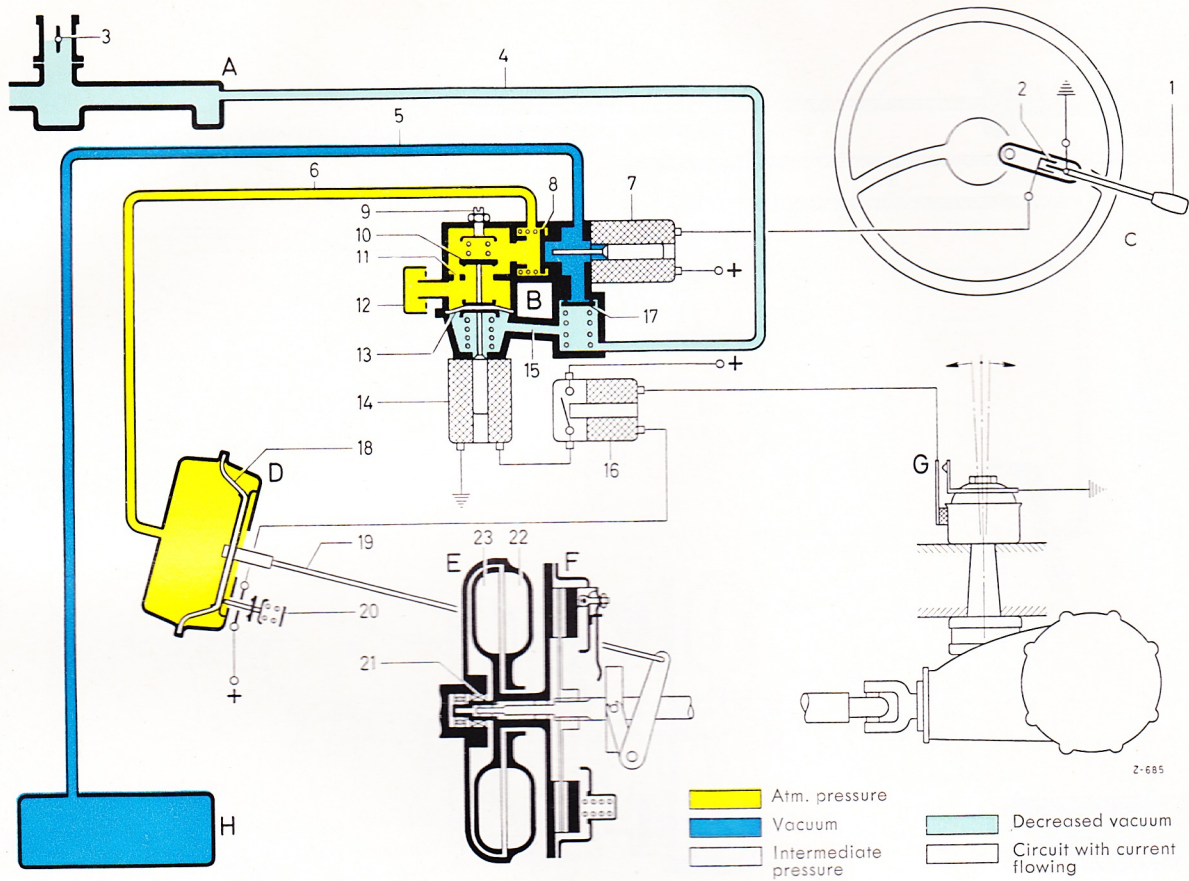

Fig. 25-0/10
Engaging of the clutch after the gearshift operation commences immediately the shift lever is released. As soon as the driver's hand lets go of the shift lever, the current supply to the electro-magnet (7) is interrupted and thus the control valve (8) of the servo assembly (D) is cut off from the intake manifold of the engine and / or from the vacuum supply reservoir (Fig. 25-0/10). The canal to the reducing valve is once more opened up.